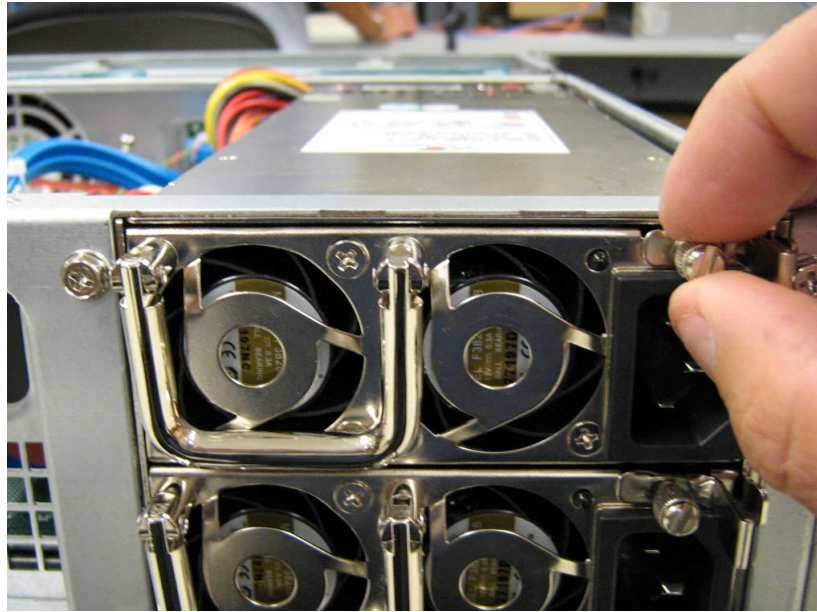

Figure A-19 Unscrew the Bolt Holding the Locking Mechanism
1. Locate the failed power supply module. Unscrew the bolt holding the locking mechanism in place as shown in Figure A-19.